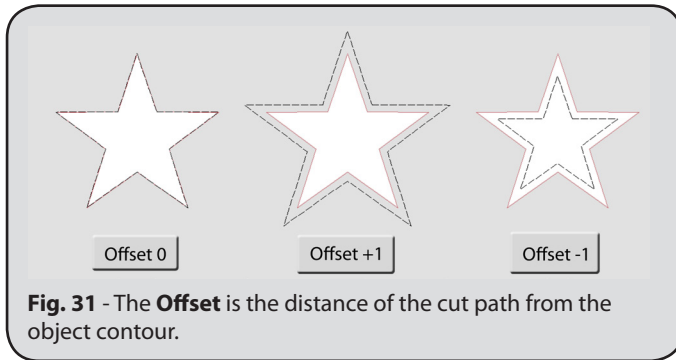

Fig. 31 - The **Offset** is the distance of the cut path from the object contour.
6. Set the **Offset** according to how you want the cut lines spaced along the line art contours (Fig. 31).